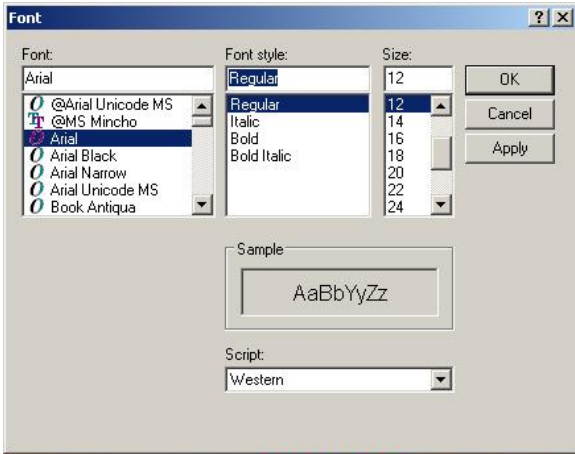

Figure 5.3 Set Text Font
1. A font selection screen will appear (see Figure 5.3).